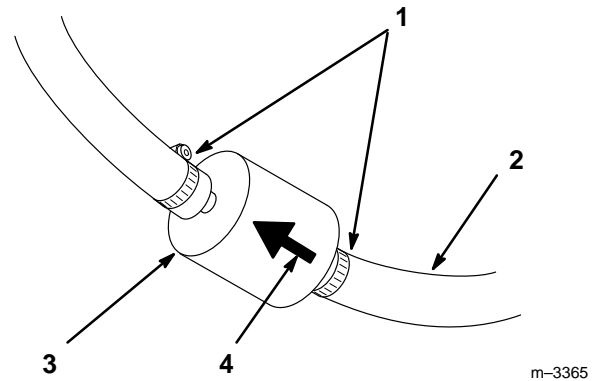

Figure 41
4. Squeeze the ends of the hose clamps together and slide them away from the filter (Fig. 41).